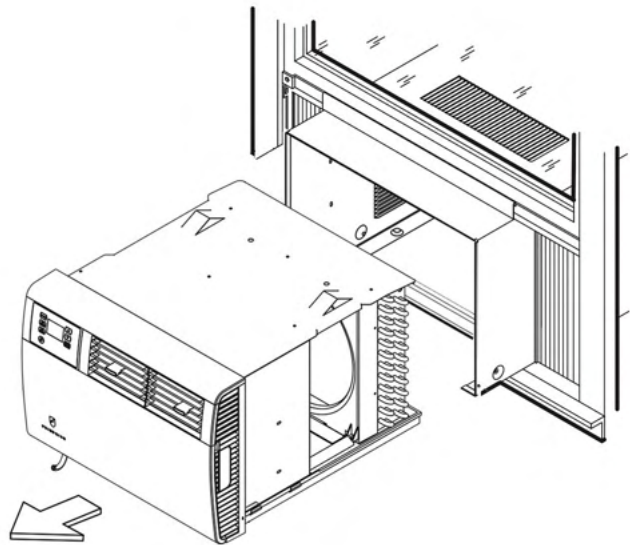

Figure 505 (Remove Chassis)
2. Hold the cabinet stationary then carefully slide the unit out of the sleeve. Make sure to fully support the unit. (Refer to Figure 505)
4. Reinstall the EntryGard™ screws.. (Refer to Figure 505)